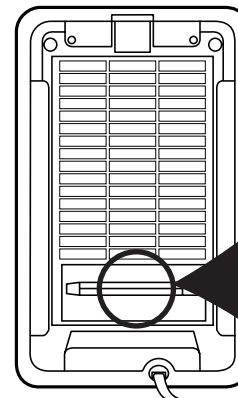

Figure 4
4. The UV-C Bulb is removed by carefully grasping the bulb with a clean cloth or tissue and pulling the bulb straight out of the unit (Figure 4).